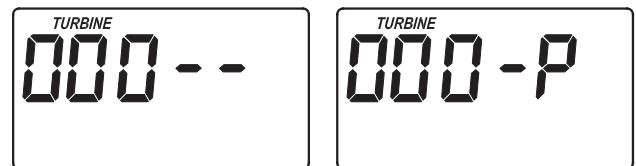
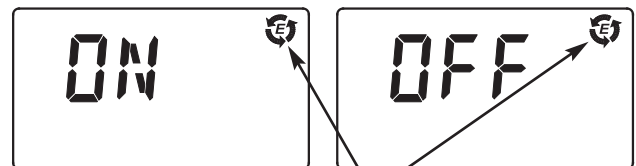

FIG. 20
FIG. 21
1. Press and hold the SELECT button until one of the screens in Figure 20 is displayed. Once in this display, press the SELECT button once and one of the two displays in Figure 21 is shown.